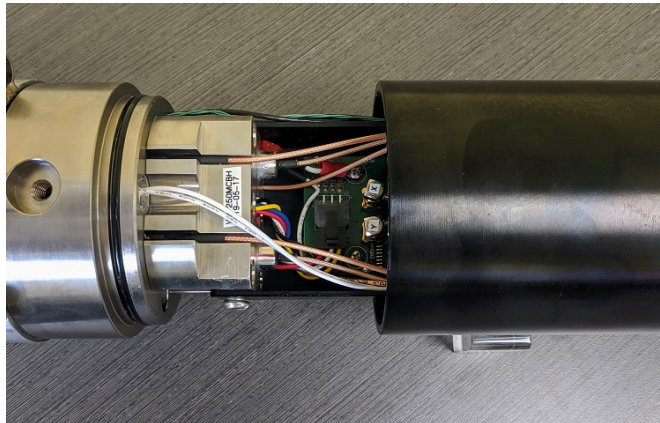

Figure 21: Sliding electronics out of pressure tube
2. Slowly slide the pressure tube past the internal frame (Figure 21), exposing the internal electronics.